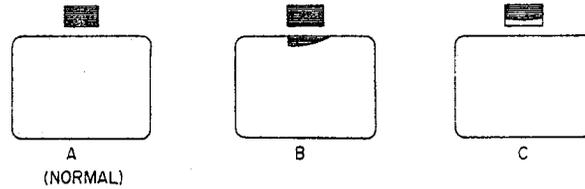

Fig. 18
If aperture indicator appears as shown in Fig. 18 (B) or (C), properly position by turning Cam "E" (Fig. 2).